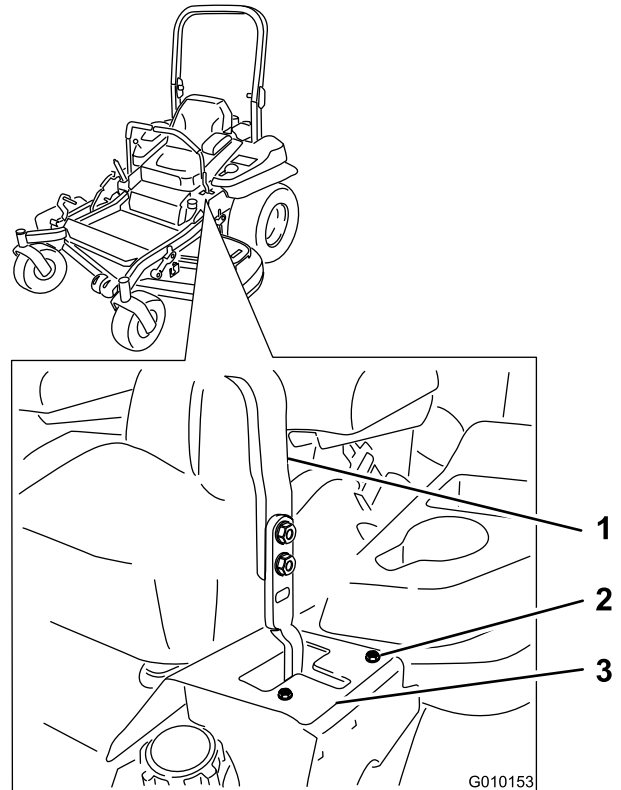

Figure 65
- If it tracks to the left, loosen the bolts and adjust the right stop plate rearward on the right T-slot until the machine tracks straight (Figure 65).
- Tighten the stop plate (Figure 65).
- If it tracks to the right, loosen the bolts and adjust the left stop plate rearward on the left T-slot until the machine tracks straight (Figure 65).